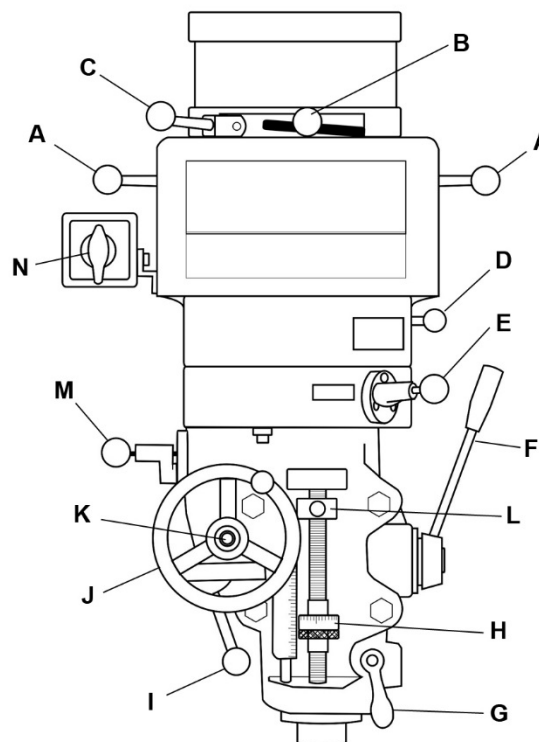

Figure 8
Refer to Figure 8:
1. Ensure quill lock (G, Figure 8) is loosened by rotating counterclockwise.
2. Set micrometer dial (H) to desired depth.
3. Engage auto quill feed lever (D) by pulling out lock knob and moving lever to left hole.
4. Select feed rate (M).
5. Select feed direction (K).
6. Engage feed trip lever (I) by pulling away from head assembly.
**WARNING** Verify that manual fine feed handwheel (J, Figure 8) has been removed for power feeding. Failure to comply may cause injury.
1. Loosen knurled lock nut on micrometer nut (H).
2. Use Coarse Feed Handle (F) to advance quill to the point where the feed should stop.
3. Engage Feed Trip Lever (I) by pulling it away from head assembly.
4. Adjust Micrometer Adjusting Nut (H) against Quill Stop (L).
5. Continue turning Micrometer Adjusting Nut (H) until Feed Trip Lever (I) trips.
6. Tighten Locknut (H).
7. Disengage Quill Lock (G) by rotating counterclockwise.
8. Start spindle by turning switch (N).
9. Set Feed Rate Lever (M) to the feed rate required for the tooling and material used.
10. Place Quill Feed Engagement Lever (E) in the Engaged position.
1. Lock spindle by turning spindle brake (C, Figure 8) left or right.